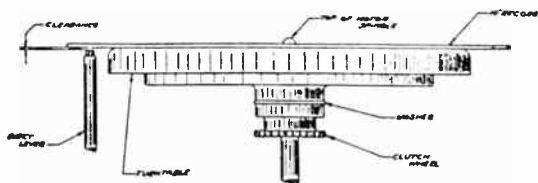

Fig. 17 - Correct Height of Record on Turntable Spindle
- a. Note the height of the record on the motor spindle, and compare this height with the correct height as shown in Fig. 17. If the record is considerably lower, raise the height by placing one or more cork or fiber washers under the turntable.